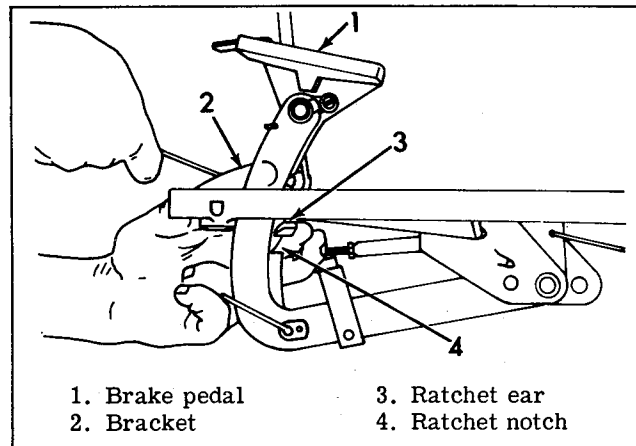

Figure 2G-39. Adjusting Mechanical Brake Release
#### DISASSEMBLING AND REASSEMBLING MECHANICAL BRAKE CROSS-SHAFT (Figure 2G-37)
#### MECHANICAL BRAKE LOCKING RATCHET (Figure 2G-39)
See Figure 2G-39. Loosen, but do not remove pedal bracket-to-floor panel nuts with wrench. Depress brake pedal and tilt foot pedal (1) forward. Shift bracket (2) so that ear (3) engages one of notches (4). Fully tighten nuts while holding in this position.